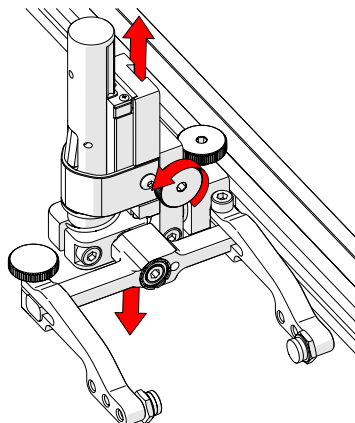

Fig. 60 - Vertical adjustment
2. The vertical adjustment knob allows the vertical probe holder height adjustment (Fig. 60).